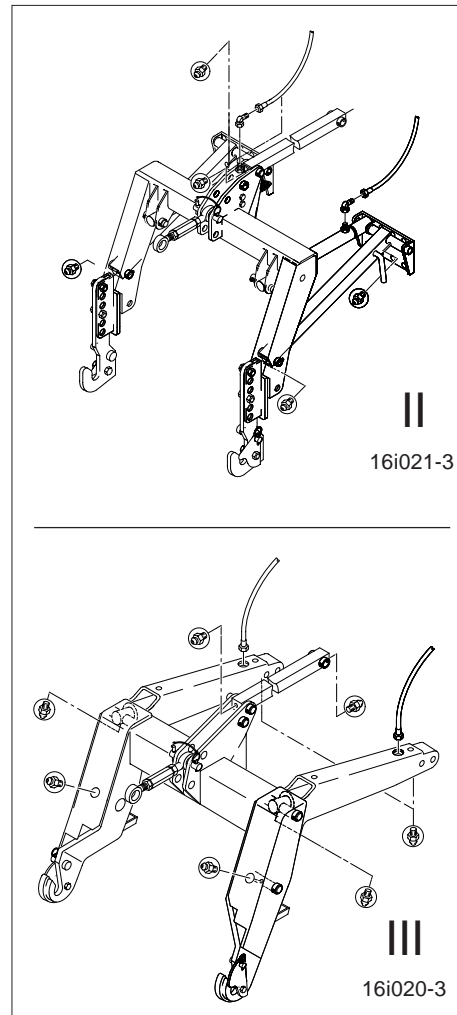

Fig. 19.14
- the 6 and 8 grease nipples (Fig. 19.14) on the lifting frame of the AMAZONE-System "Liftpack".